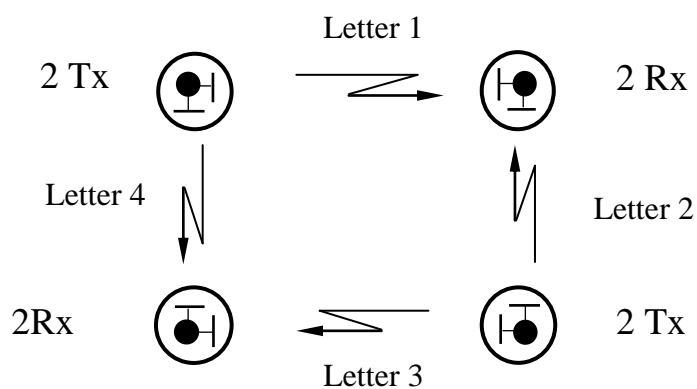

Fig.5.2
5.1.4. The configuration of a protection boundary can have any form. It is provided by the rotation of the Tx upper transmitter and the Rx upper receiver of beaming on the angle of azimuth about lower ones within the angle 250° . A variant of a protection closed boundary generated by four sectors is given in fig.5.2. At that two upper transmitters and two upper receivers are used.